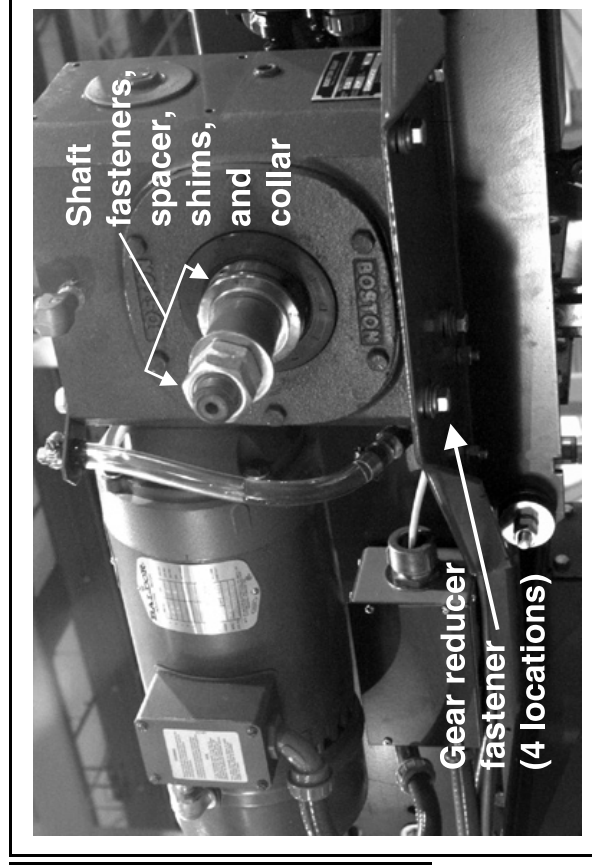
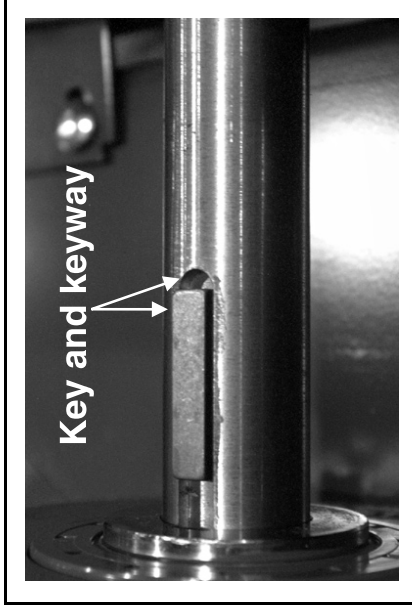

FIGURE 5 (MSSM0943AE)
FIGURE 7 (MSSM0943AE)
4. Remove the gear reducer fasteners, shaft fasteners, spacer, shims, and collar allen screws (FIGURES 5 and 6). Slowly and carefully slide the gear reducer and motor unit back until the key and keyway appear (FIGURE 7). Remove the key to disconnect the gear reducer from the shaft. Attach two feet of electrical wire to the first chain link. Thread the wire through the sprocket, then pull on wire and turn the shaft by hand to draw chain onto sprocket and through chain path, as shown in FIGURES 8 and 9. Remove the wire after the first chain link is around the last pulley.
5. Carefully feed about two feet (610) of chain down the chain storage tube.